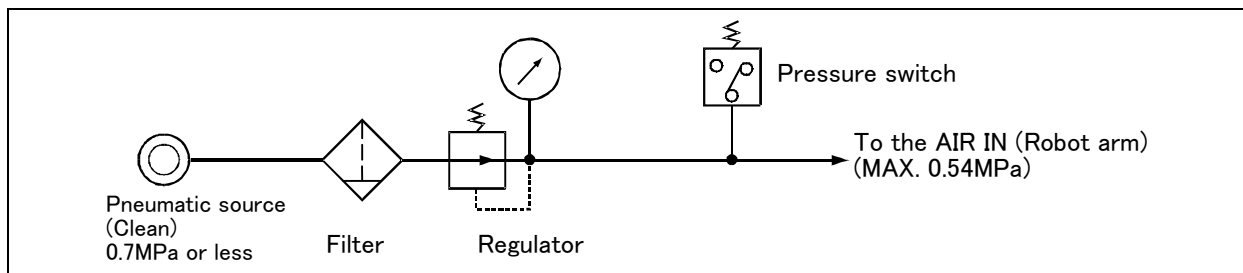

Fig.2-39 : Air supply circuit example for the hand
- 2) When the factory pneumatic pressure drops, as a result of the hand clamp strength weakening, there can be damage to the work. To prevent it, install a pressure switch to the source of the air as shown in Fig. 2-39 and use the circuit described so that the robot stops when pressure drops. Use a hand with a spring-pressure clamp, or a mechanical lock-type hand, that can be used in cases where the pressure switch becomes damaged.